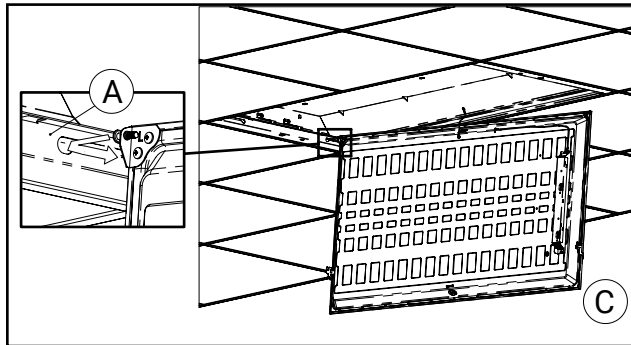

Figure 8.
8. Follow the sequence below to hang the LED Panel (C) from the Anchor Rails (A):
- Fully insert the left shoulder screw on the LED panel into the entrance of the far key slot on the left Anchor Rail, then slide it approximately halfway to the end of the key slot (Fig. 8).